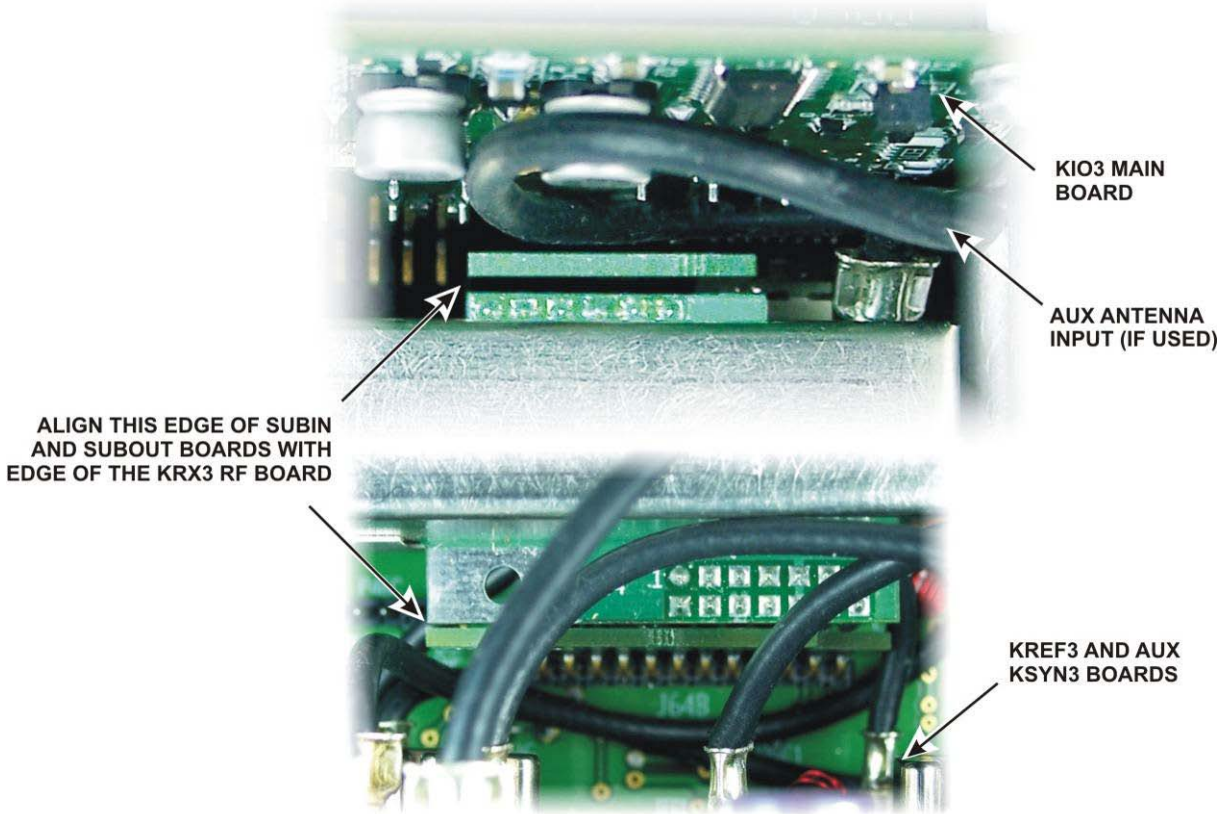

Figure 48. Aligning the SUBIN and SUBOUT Connectors.
□ With all the TMP cables attached, lower the KRX3A module into the K3 so that the connectors on the KRX3A mate with the connectors on the SUBIN and SUBOUT interface boards (see Figure 48). The knurled nuts are provided as handles to make holding the assembly easier. You may need to adjust the cables near the SUBOUT board so they don't interfere with mating the connectors. If the connection between J92 and the KAT3 is used, form the excess cable into a loop in front of the KIO3 board.